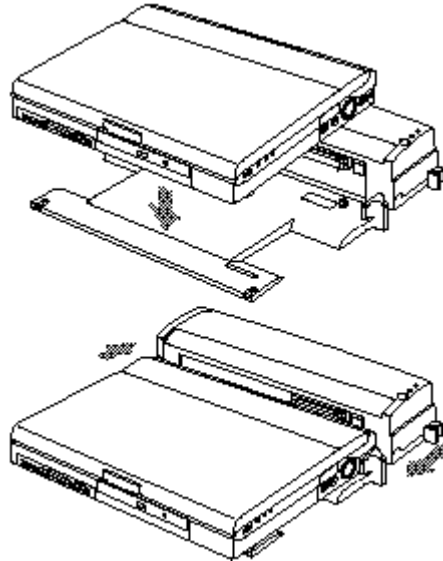

Figure 4-16 Installing Your Notebook in a Docking Device
9. Insert the memory upgrade module at a 45° angle. (Figure 4-16.) Press the connector edge of the module firmly down and into the connector.
7. Arrange the notebook/leveler combination to align the docking connector on the docking device body with the Docking port on your notebook and the notches on the leveler with the notches on the docking device body. (Figure 4-16.)